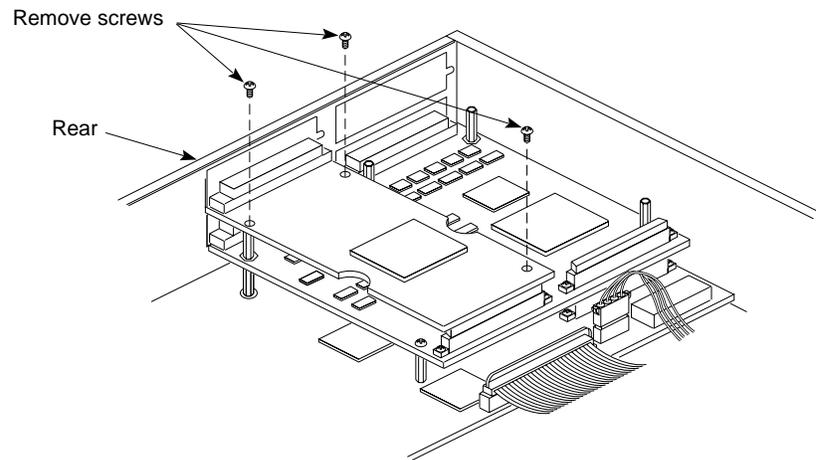

Figure 2-9 Removing the Screws From the GIO Option Board
4. Using a Phillips screwdriver, remove the screws that attach the GIO option board to the standoffs on the IOPLUS, as shown in Figure 2-9.